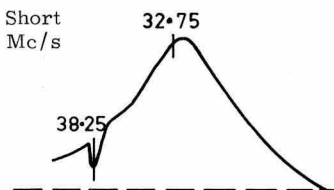

FIG. 10.
8. Connect C. R. O. via low impedance detector probe to pin 7 of V6 (6EH7). Short circuit secondary of IFT 1B (pins E and H) and tune primary and 38.25 Mc/s trap L21 in IFT 2 (top core) to obtain the response as in Fig. 10.